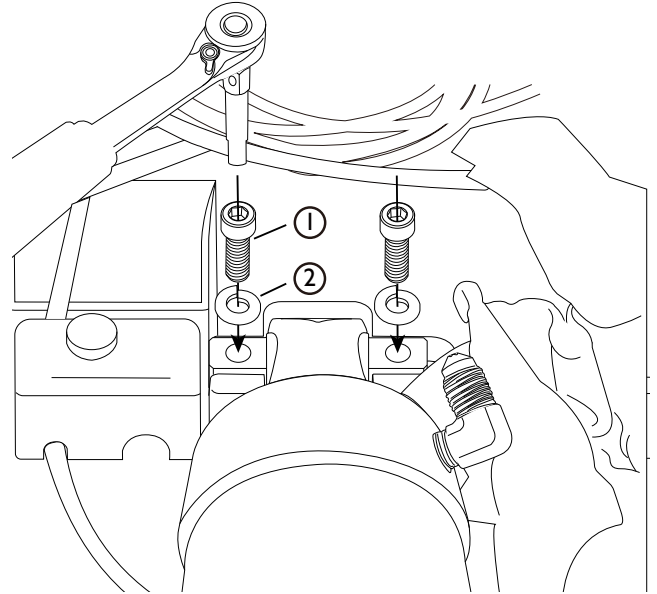

Figure 13. Reconnecting two lower bolts
1 With the replacement cylinder, reconnect the lower cylinder bolts (see Figure 13, item 1) with washers (item 2).